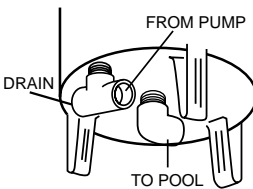

FIG 3:
SUGGESTED INSTALLATION (Fig. 3)
1. Install thread to socket "T" on the side nipple as shown in figure 3. Pipe water from discharge of pump to one side of this "T".